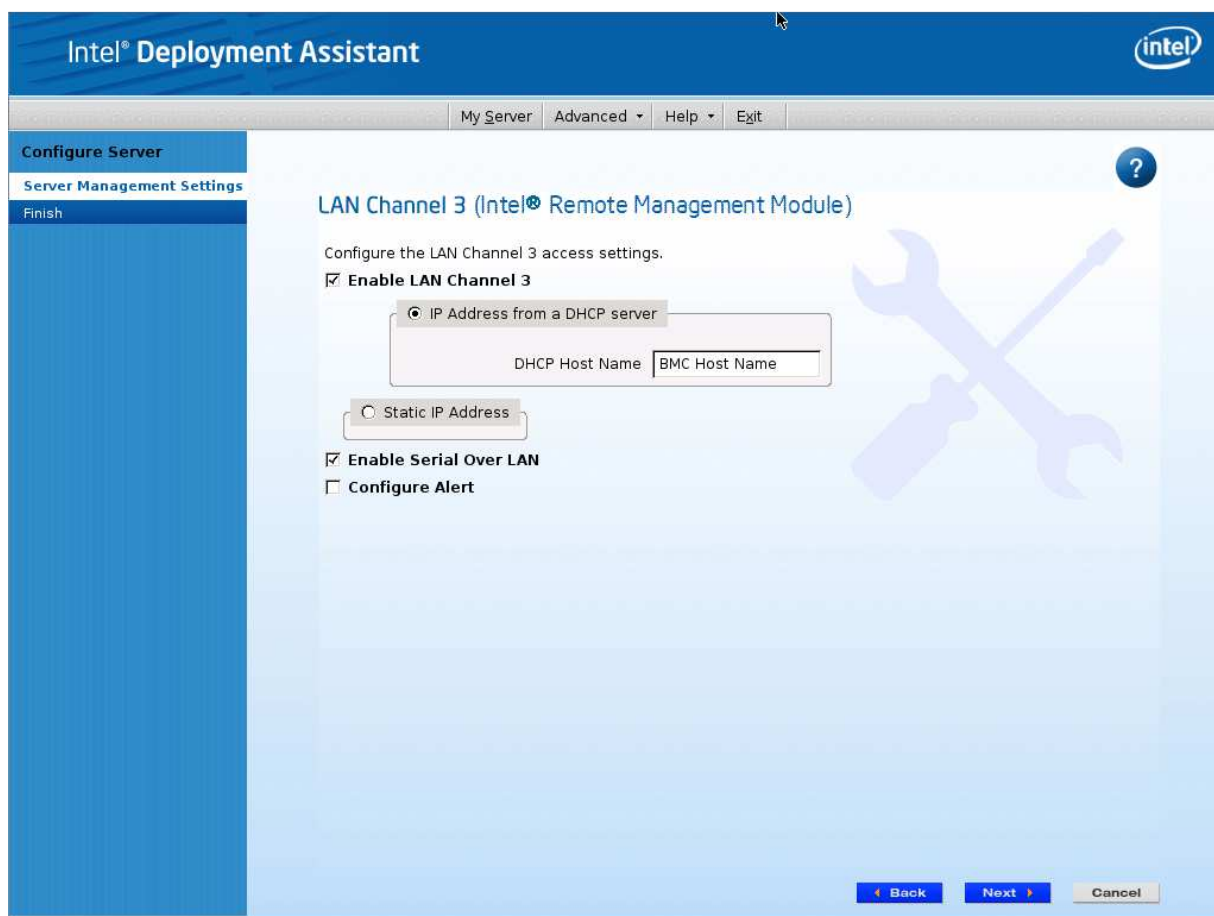

Figure 31: IDA Configure Server: Configure LAN Channel 3 (Intel® RMM4 DMN)
- a. If **IP Address from a DHCP server** is selected, configure the **DHCP Host Name** as shown in Figure 31.